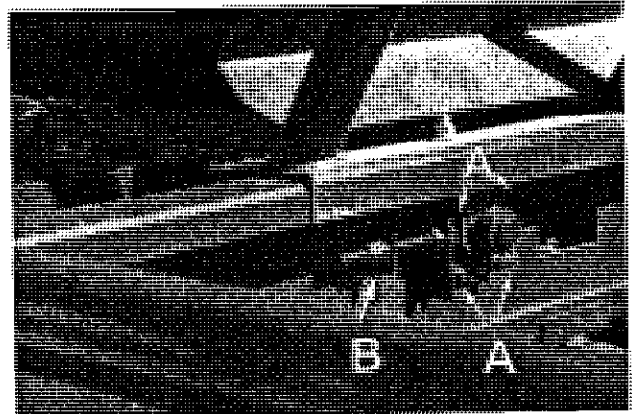

Figure 38. Tank Chain Tensioning
To adjust the tension of the draper chain in the tank conveyor, loosen the bracket bolts (Figure 38-A). Using take-up bolts (B), tension both sides equally so the draper chain just clears the guide under the tank. Tighten the bolts. Check tension frequently.